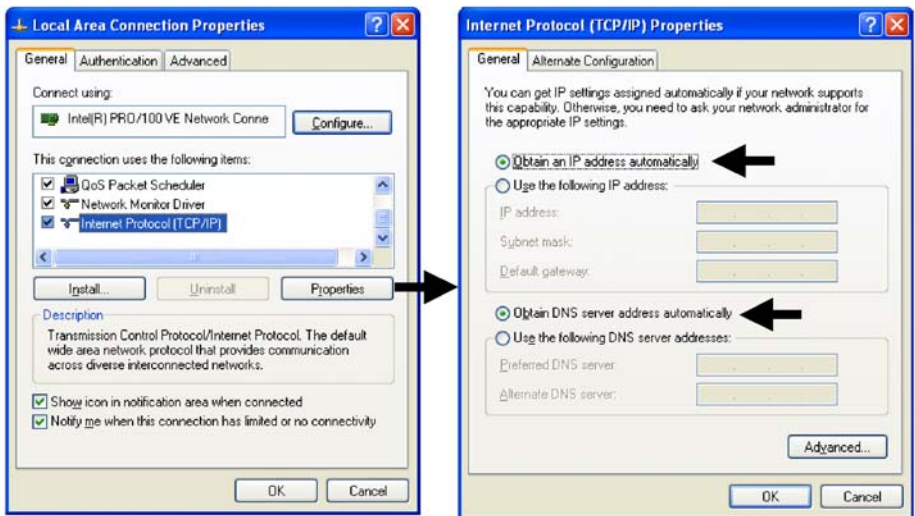

Figure 2. Displaying the Internet Properties (TCP/IP) Properties window
2. Double-click on *Local Area Connection* and click on **Properties** to open the *Internet Protocol (TCP/IP) Properties* window (see figure 2).